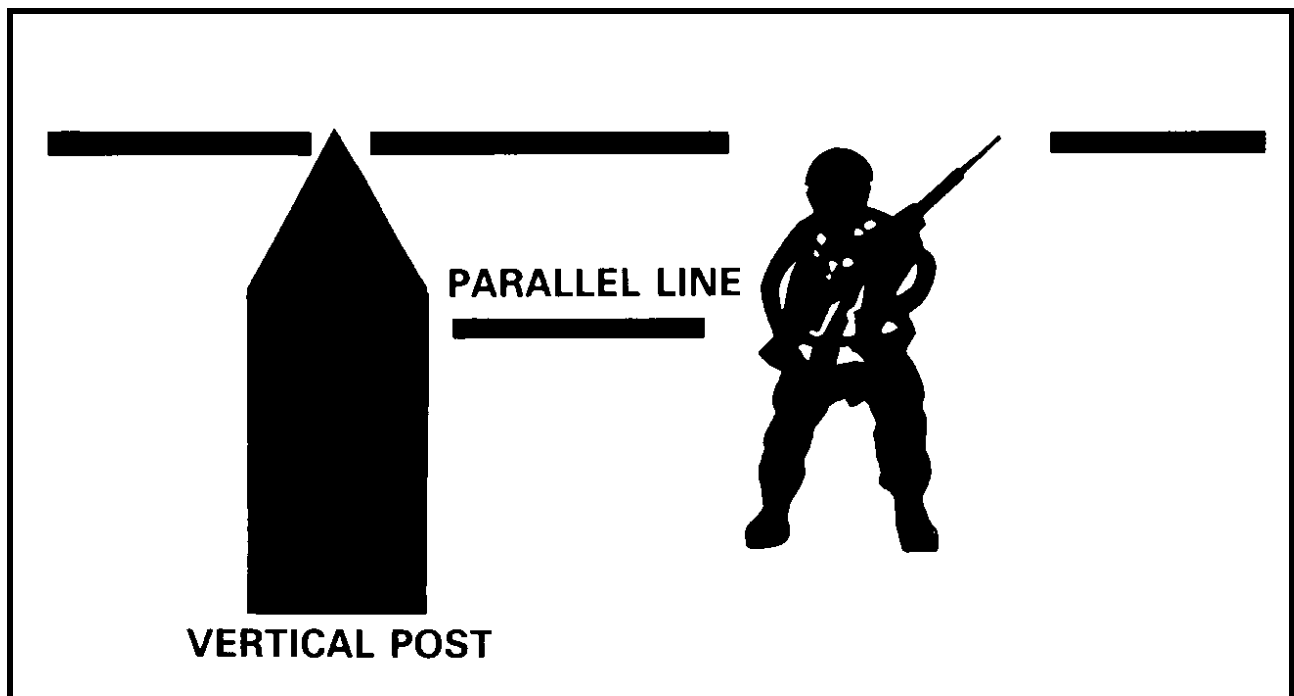

Figure 2-28A Target at 300 m
- (1) The gap between the parallel line represents 65 cm at 300 metres, If a standing human size target fits inside the parallel line and the levelling line from helmet to waist, the target is 300 metres away and the range dial should be set on 300 (Figure 2-28A). If a standing human size target fits completely between the parallel lines, the distance to the target would be 600 metres and the range dial should be set at 600.
- (2) Using a known reference point/impact area, the sight can be used to indicate targets/adjust fire. The 10 mil levelling lines and 10 mil gaps can be used to calculate the distance in mils from a known reference point to a target that allows the gunner to then indicate the location of the target. Furthermore, knowing the rule (1 mil = 1 metre at 1,000 metres) the levelling lines can assist the gunner to give lateral adjustments to indirect and direct fire weapons in metres.